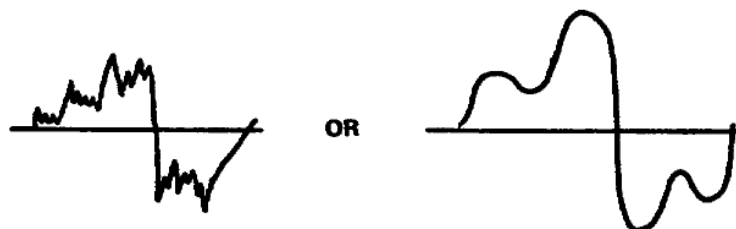

Figure 1-7. Complex wave
b. If the waveform consists of two or more single frequencies, or pure tones, then it appears as a complex wave (fig 1-7).